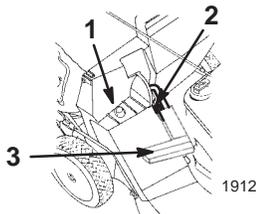
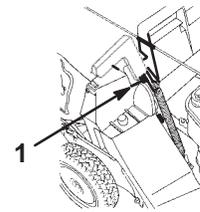

Figure 15
Figure 16
2. Ensure that the discharge door handle is fully forward and that the pin is engaged in the catch (Fig. 15).
3. Slide the hole in the bag frame onto the retaining post on the discharge tunnel (Fig. 15).
5. Open the discharge door by pulling the discharge door handle forward until the pin clears the ramp on the bag door and moving the handle rearward until the pin locks in the bag notch (Fig. 16).
2. Pull the discharge door handle up and out of the bag notch (Fig. 16) and pull it forward until it engages the catch (Fig. 15).